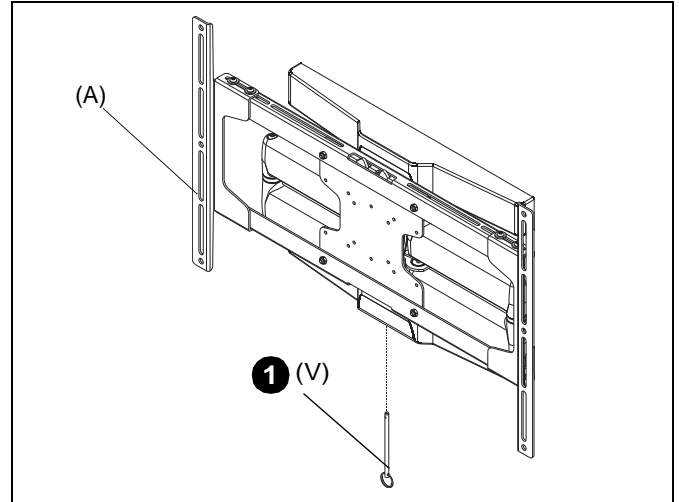
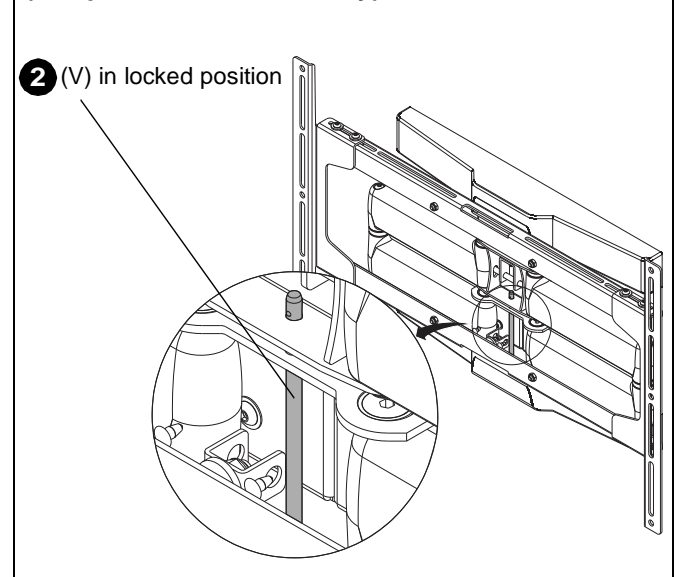

Figure 16
Figure 17
1. Insert locking pin (V) through lower bracket on main assembly (A) and into holes on brackets behind faceplate. (See Figure 16) and (See Figure 17)